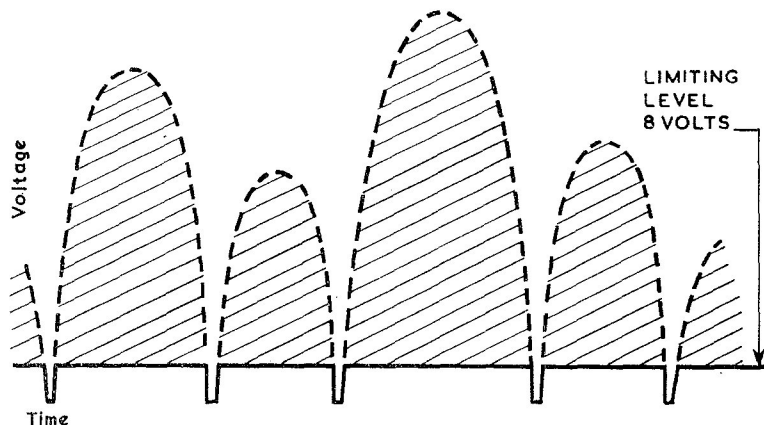

Fig. 13. Frequency doubler output waveform
- (4) Rotate the VARIABLE SPEED CONTROL fully clockwise using the fine control.
- (5) Connect oscilloscope to MONITOR COUNTER I/P SKTS.
- (6) Set the oscilloscope to its 50V range, with a time-base duration of 100 micro-seconds.
- (7) Observing the oscilloscope, adjust RV2 to give a limiting level of 8 volts on the trace. If all peaks are not clipped at this amplitude the probe must be positioned nearer the detector wheel until the required waveform is obtained (fig. 13).
- (8) Disconnect the oscilloscope.
- (9) Check that the counter registers at least 12,000 and the count has a stability of ± 5 of the final digit.
- (10) If the counter is not stable rotate the SET O/P LEVEL anti-clockwise until the DRIVE TACHO stalls, then rotate the control 5 degrees clockwise. Restart the DRIVE TACHO and check the counter stability.